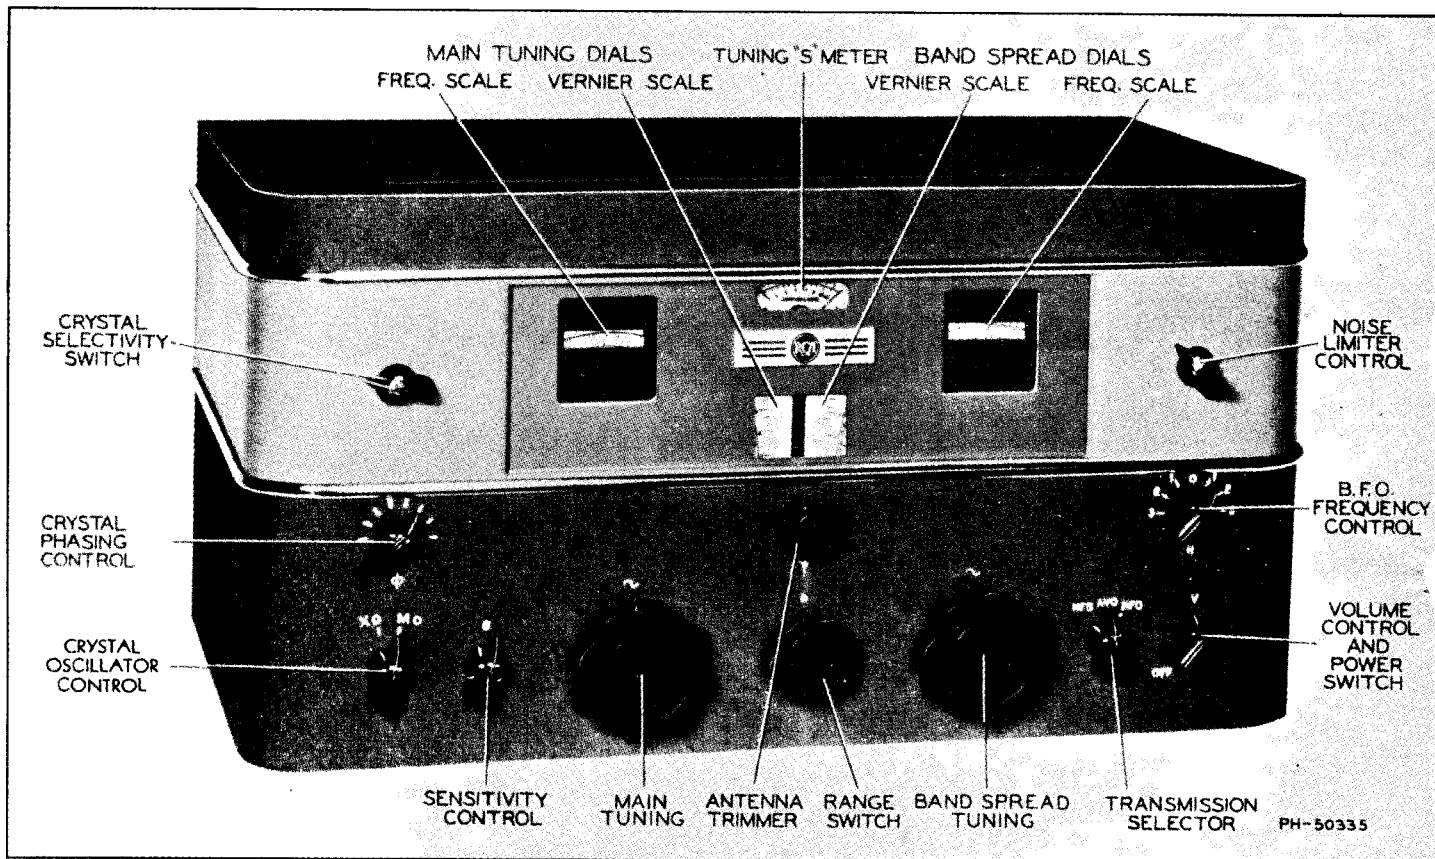

Figure 1—General Purpose Communication Receiver
4.1 Before attempting to operate the G.R.-10 receiver, the information contained in this section should be thoroughly understood by the operator. The symbols on the panel used to designate the various controls should be learned with respect to function, as shown in Figure 1, and described herein.